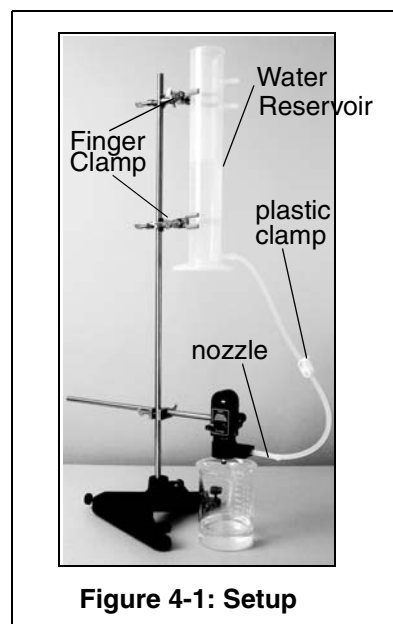

Figure 4-1: Setup
1. Mount an empty Water Reservoir (ME-8594) to a rod stand with fingered clamps (SE-9445). See Figure 4-1.